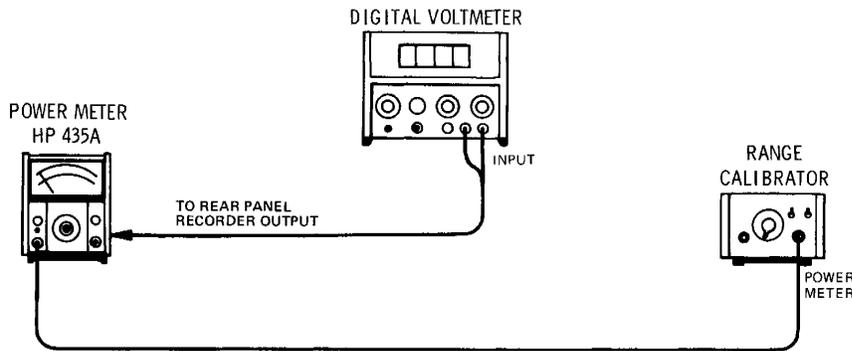

Figure 4-3. Instrumentation Accuracy Test Setup With Calibrator
4. Connect the equipment as shown in Figure 4-3.